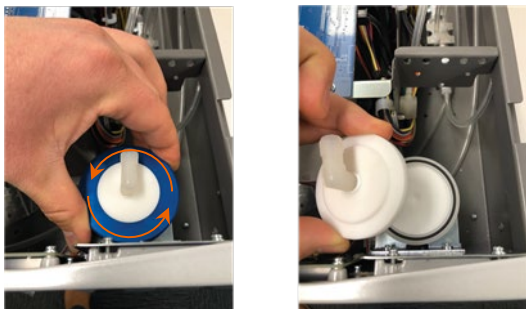

Figure 55 – Removing the Plunger
3. Remove the sealing cap from the filter base (refer to Figure 55).